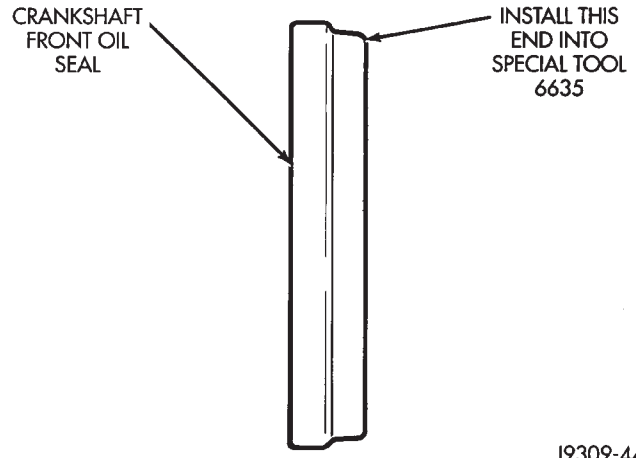

Fig. 43 Placing Oil Seal on Installation Tool 6635
(1) Disconnect the negative cable from the battery.
(2) Remove vibration damper.
(3) If front seal is suspected of leaking, check front oil seal alignment to crankshaft. The seal installation/alignment tool 6635, should fit with minimum interference. If tool does not fit, the cover must be removed and installed properly.
(4) Place a suitable tool behind the lips of the oil seal to pry the oil seal outward. Be careful not to damage the crankshaft seal bore of cover.
(5) Place the smaller diameter of the oil seal over Front Oil Seal Installation Tool 6635 (Fig. 43). Seat the oil seal in the groove of the tool.